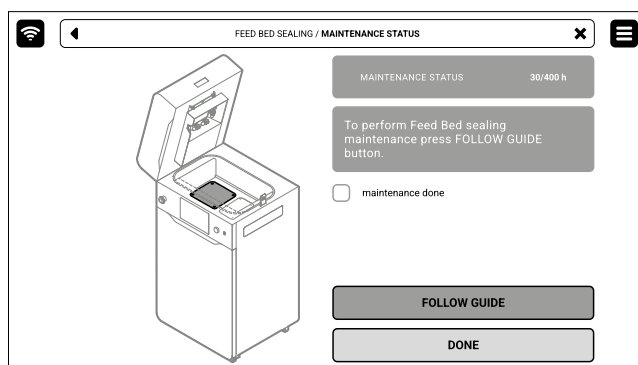

Fig. 12.30 The screen of the maintenance of the Feed Bed sealing.
3. In this case, mark **MAINTENANCE DONE** once you have completed the procedure, and then the **DONE** button. The timer will reset to zero (fig. 12.30).